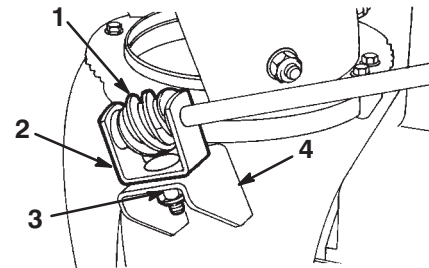

Figure 12
2. Apply No. 2 general purpose grease to the worm gear (Fig. 12).
3. Loosely mount the worm gear and the bracket to the mounting flange with a bolt, a pyramidal washer, and a locknut as shown in Figure 12.
4. Slide the worm gear into the teeth of the chute retaining ring and tighten the locknut (Fig. 12).